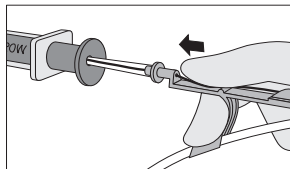

Figure 3
- Raise thumb and pull Arrow Advancer approximately 4 - 8 cm away from Arrow Raulerson Syringe or introducer needle. Lower thumb onto Arrow Advancer and while maintaining a firm grip on guidewire, push assembly into syringe barrel to further advance guidewire (refer to Figure 3). Continue until guidewire reaches desired depth.